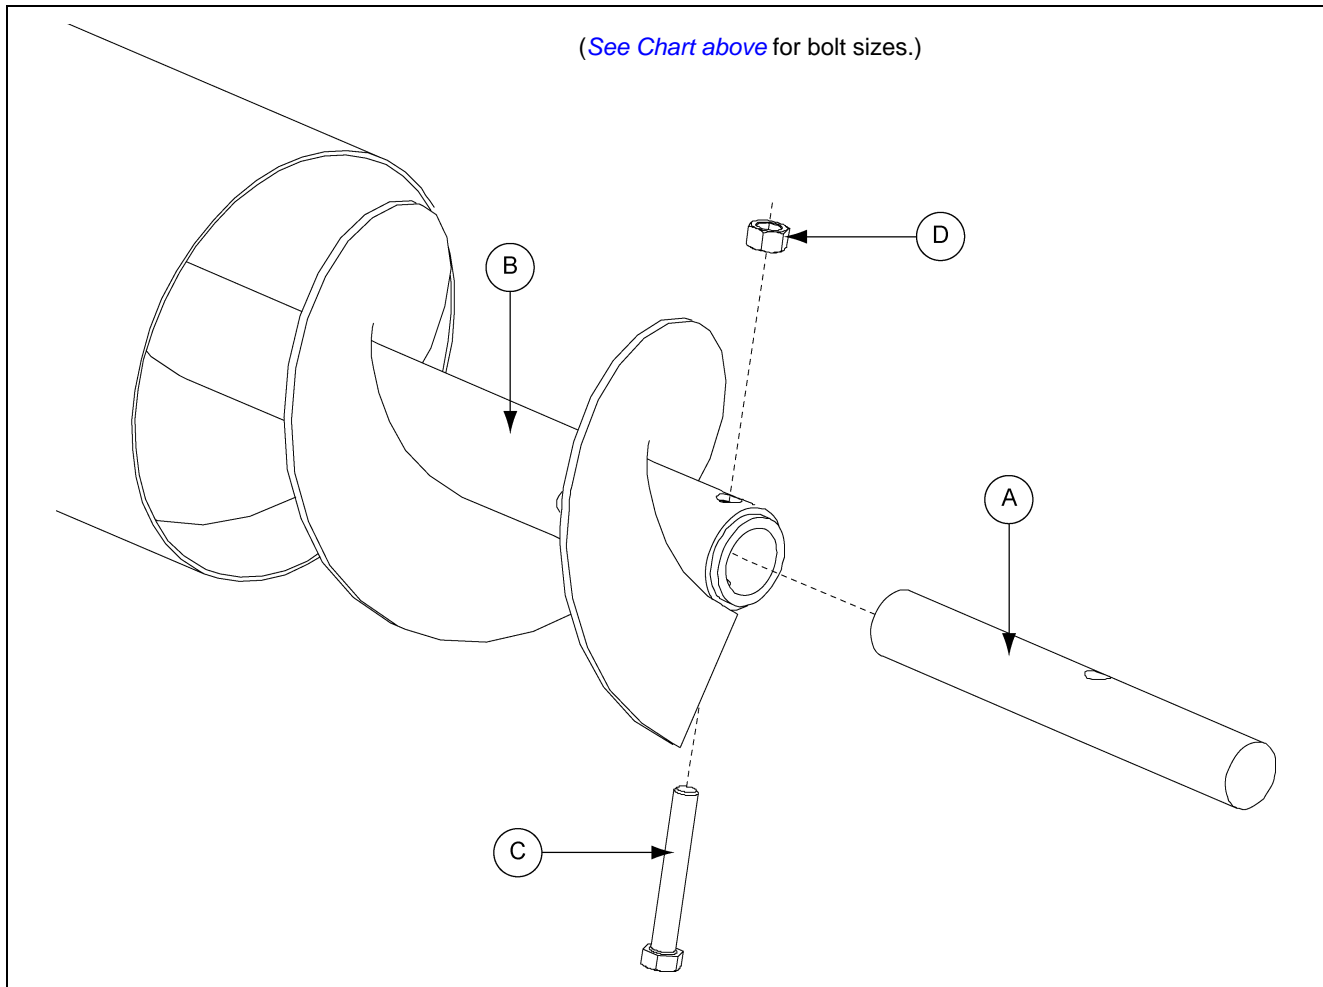

Figure 4P
5. Insert the intake shaft (A) into the flight (B) and connect with proper grade 8 bolt (C) and stover nut (D). (See Chart below and Figure 4P.)